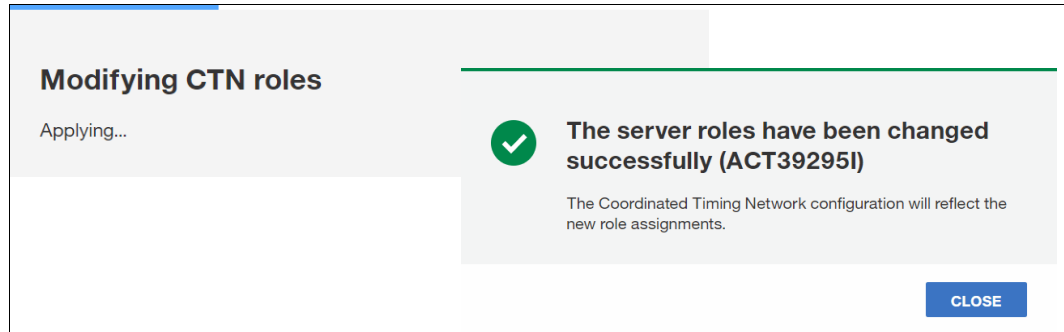

Figure 8-67 Modifying CTN window / ACT39295I Success window
- The Modifying CTN progress is shown until the operation completes successfully, followed by the ACT39295I success window (see Figure 8-67). Click **CLOSE** to return to the initial Manage System Time window.